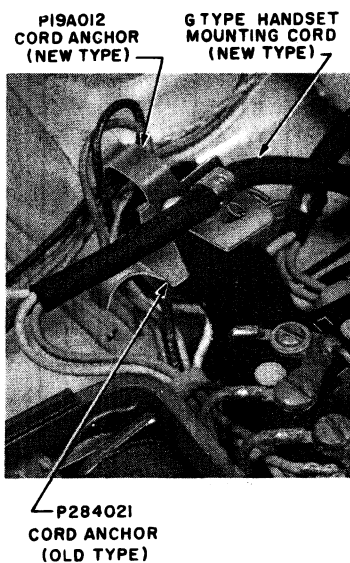
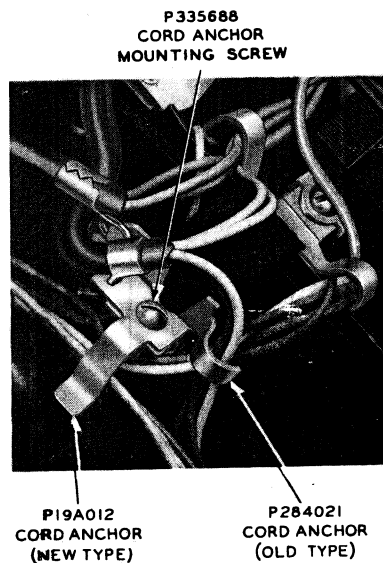

FIG. 2A—OLD TYPE CORD
FIG. 2B—NEW TYPE CORD
4.01 An additional cord anchor is provided permitting cords with either stay cord hook or S hook to be terminated. Fig. 2A shows the new mounting cord for G-type handset, and Fig. 2B shows old mounting cord for G-type handset.